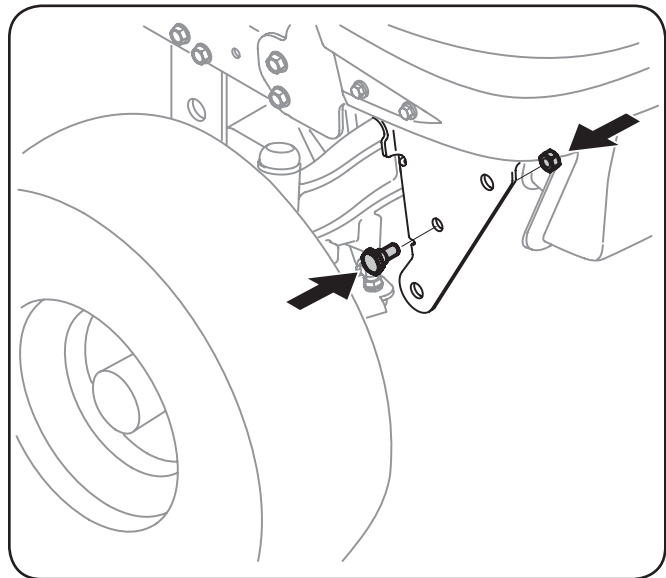

Figure 3-18
1. Install a shoulder bolt (found in the hardware pack) on each side of the tractor's front end and secure with a lock nut. See Figure 3-18.